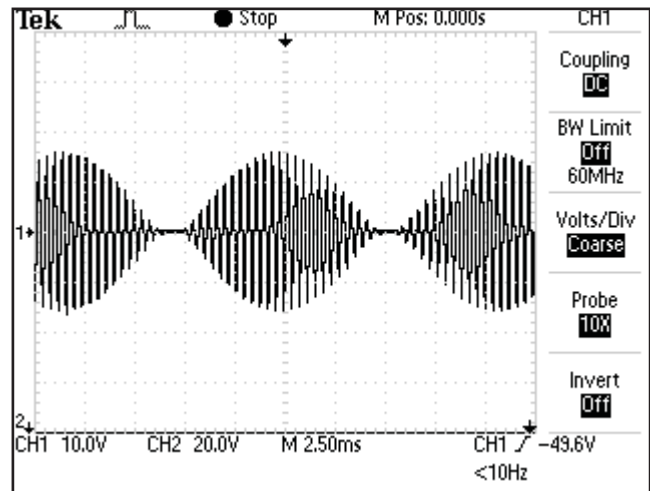

FIGURE 4.3
B. Premodulated - Figure 4.3 (Factory Default Setting)